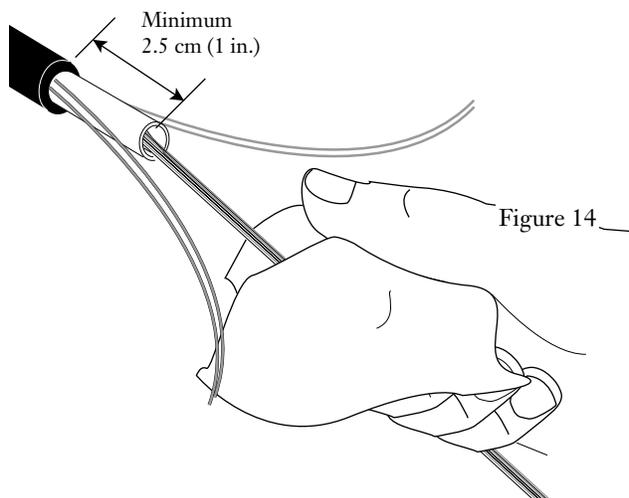

Figure 13
- f) Repeat these steps until the desired length of central tube is removed, leaving at least 2.5 cm (1 in.) of exposed tube beyond the end of the sheath (see Figure 13). *The length of exposed buffer tube may vary depending on the hardware being used.*
**5.3** Use a lint free tissue or cloth to wipe the filling compound from each ribbon (Figure 13). If cleaner ribbons are desired, filling compound remover may be used as follows.